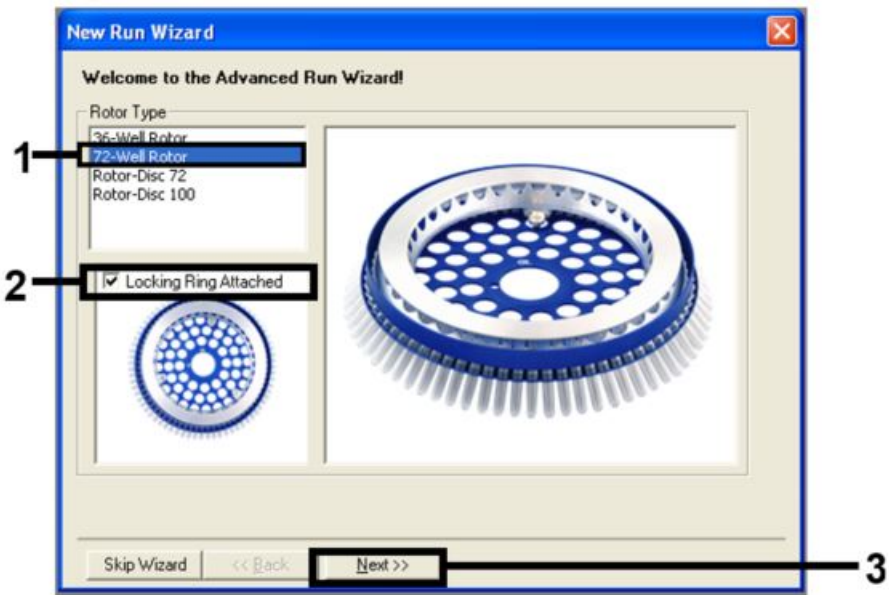

Figure 20. The “New Run Wizard” dialog box (1 = “Rotor type”; 2 = “Locking Ring Attached” box; 3 = “Next” button).
3. Select 72-well rotor as the rotor type. Confirm that the locking ring is attached and check the “Locking Ring Attached” box. Click “Next” (Figure 20).